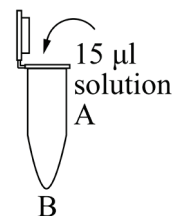

Fig. 8
5. Use the P20 micropipette, transfer 15 μl solution from tube A to tube B. Hence, the solution in tube B is a 100-fold dilution of the solution in tube A (Fig. 8).